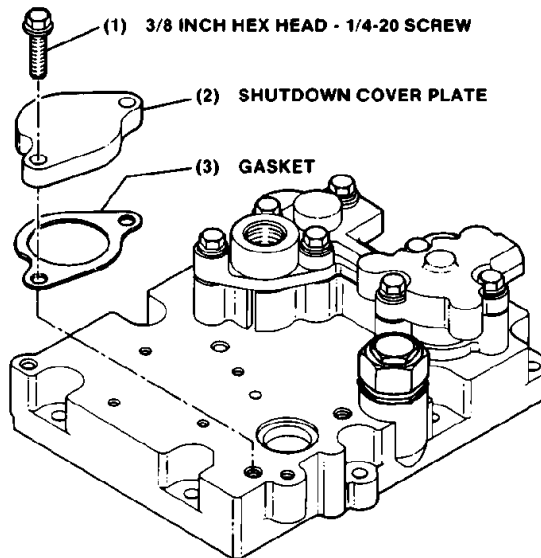

Figure 2-1. Governor Cover
2. Remove two 3/8 inch hex head 1/4-20 screws (1), shutdown cover plate (2), and gasket (3) from the governor cover (Figure 2-1), or remove shutdown device(s) if so equipped.
1. Remove two screws (1) and shutdown cover plate (2) from the governor cover. Do not remove gasket (3) from the cover unless replacement with a new gasket is necessary (see Figure 2-1).
2. With gasket (3) in place on the cover, install the manual shutdown device on the governor cover. Torque screws to 10 N·m (90 lb-in).